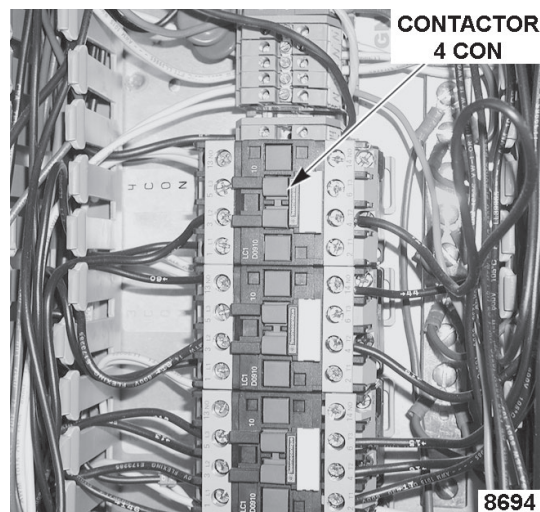

Fig. 14
- D. Verify contactor 4 CON de-energized (Fig. 14).
- J. Verify contactor 4 CON energized (Fig. 14).